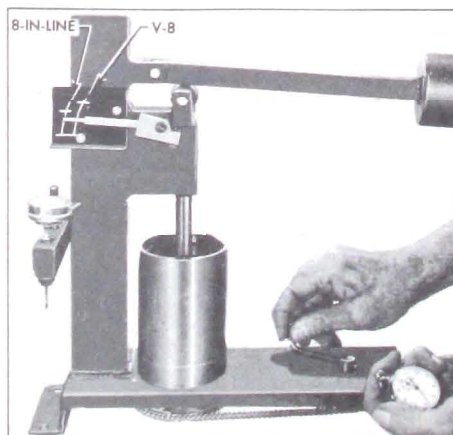

Figure 2-25—Checking Leakdown Rate
4. Lower the ram to rest in the lifter push rod seat, then lower the weight arm to rest on the roller or ram as shown in Figure 2-25.
6. Raise weight arm to allow the lifter plunger to come up to its retainer, then lower the arm to rest on the ram roller. As the pointer starts moving upward start rotating the fluid cup by turning the handle one revolution every two seconds. See Figure 2-25.
7. Use a stop watch to check the time required for the pointer to move from the lower to the upper mark on scale where marked "BUICK V-8." The cup must be rotated during this test. See Figure 2-25.-